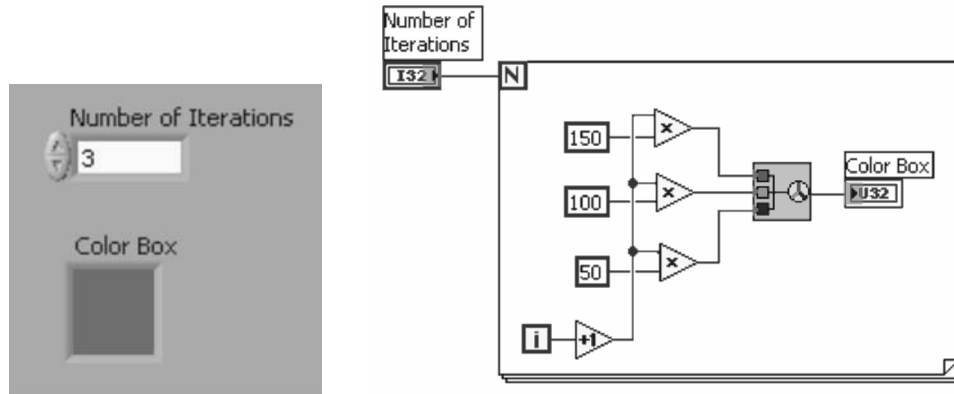

**Figure 4.2** Generating random numbers using For Loop.
**i** The iteration terminal 'i' (an output terminal) contains the number of completed iterations. The iteration count always starts at zero. During the first iteration, the iteration terminal returns 0. Figure 4.2 shows a simple For Loop which generates 10 random numbers and displays in the *Random Number Indicator*.